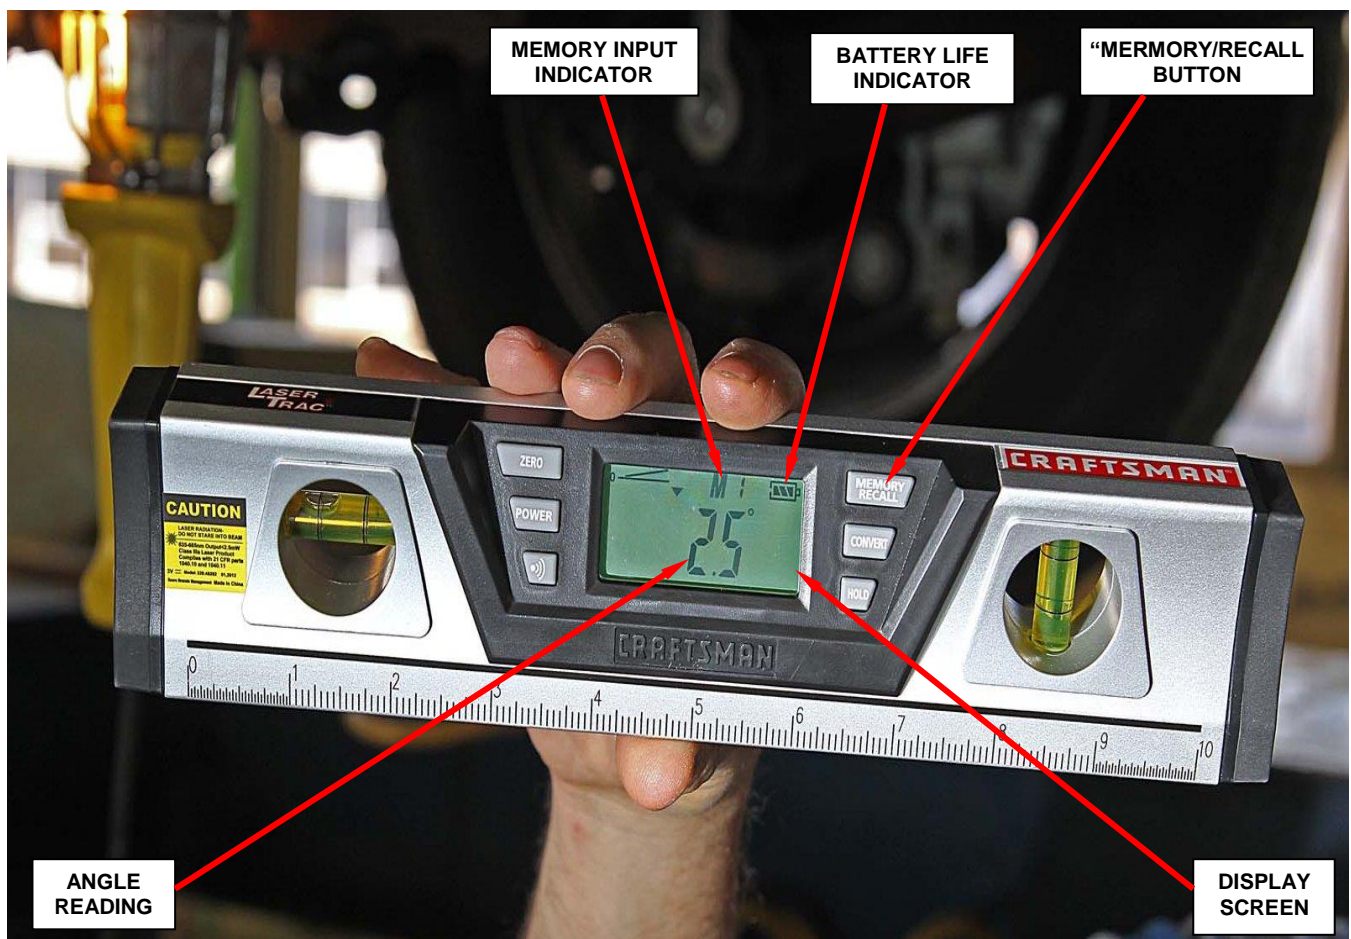

Figure 5 – Press “Memory/Recall” Button to Obtain Angle Difference between the Two Jounce Bumper Pads
11. Press the “**Memory/Recall**” button once and note the reading on the display screen of the tool (Figure 5). The number displayed on the tool screen is the angle difference between the right and left jounce pads: